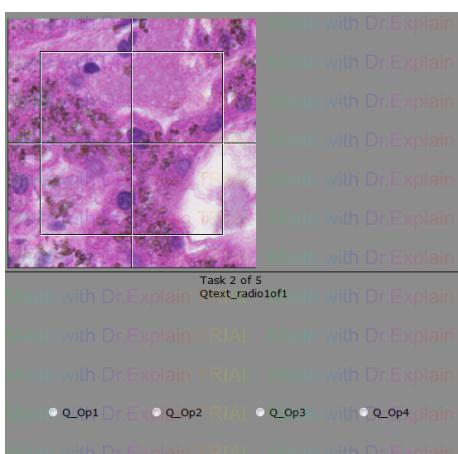

Figure 3
1. Select the one of the options that accommodates the description (Figure 3)